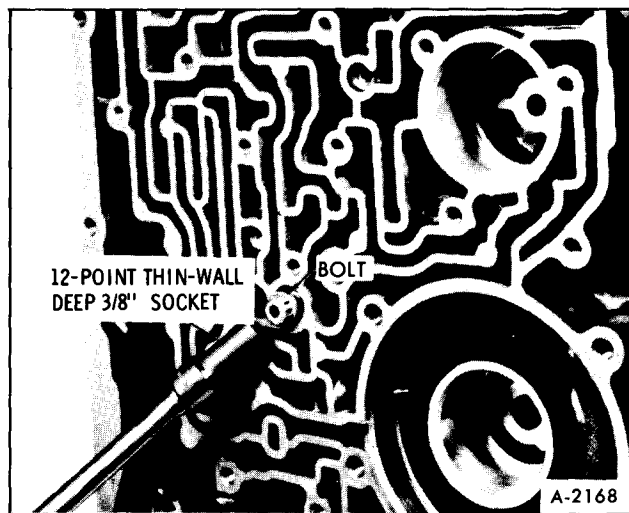

Figure 44—Remove Center Support Bolt
1. Remove center support bolt from transmission case, Figure 44, using a 3/8 inch 12-point thin wall deep socket.